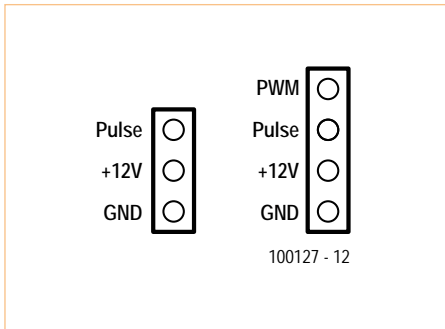

Figure 2. Pinouts of three- and four-pin fan connectors.
**Figure 2** shows the pinouts of the three- and four-pin connectors normally used, in each case an extension of the classical two-pin design providing just +12 V power and ground. The three-pin connector adds the tachometer signal, which is an open-collector output from the fan. The PC motherboard will normally include a pull-up resistor to the +12 V rail, and this is taken into account in the design of our circuit.